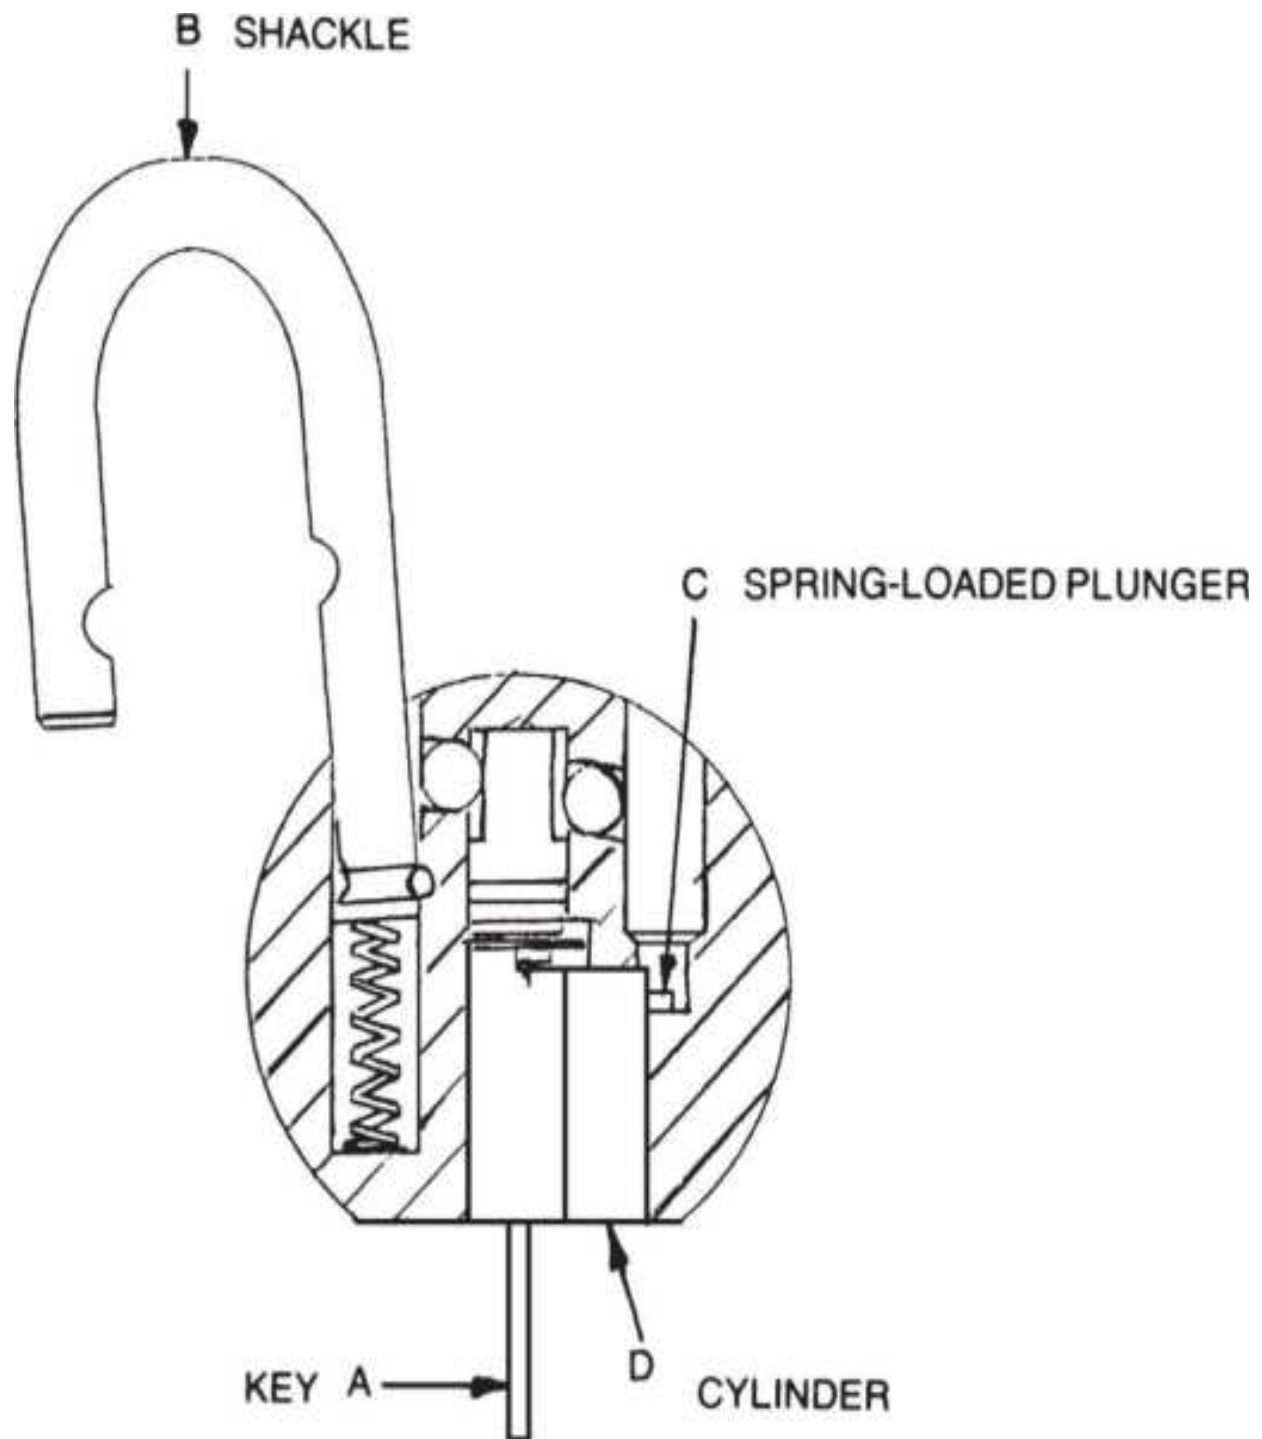

**Figure 12.7** The American 600 series padlock.
To remove the cylinder in the 600 series pin tumbler padlocks, unlock the padlock, and turn the shackle as shown in Fig. 12.7 . Depress the spring-loaded plunger (A) with a small screwdriver until the plunger is flush with the wall of the shackle hole. At the same time, pull on the key. Withdraw the cylinder.